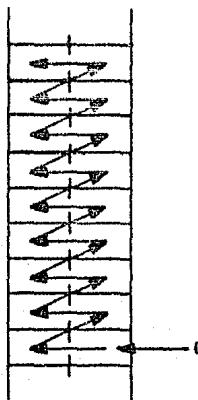

FIGURE 10.2
- C. Let us assume that a 16-digit decimal number represented in packed BCD format (two BCD digits/bYTE) has to be shifted as shown in the Figure 10.2 in order to mechanize BCD multiplication or division. The operation can be accomplished as follows: